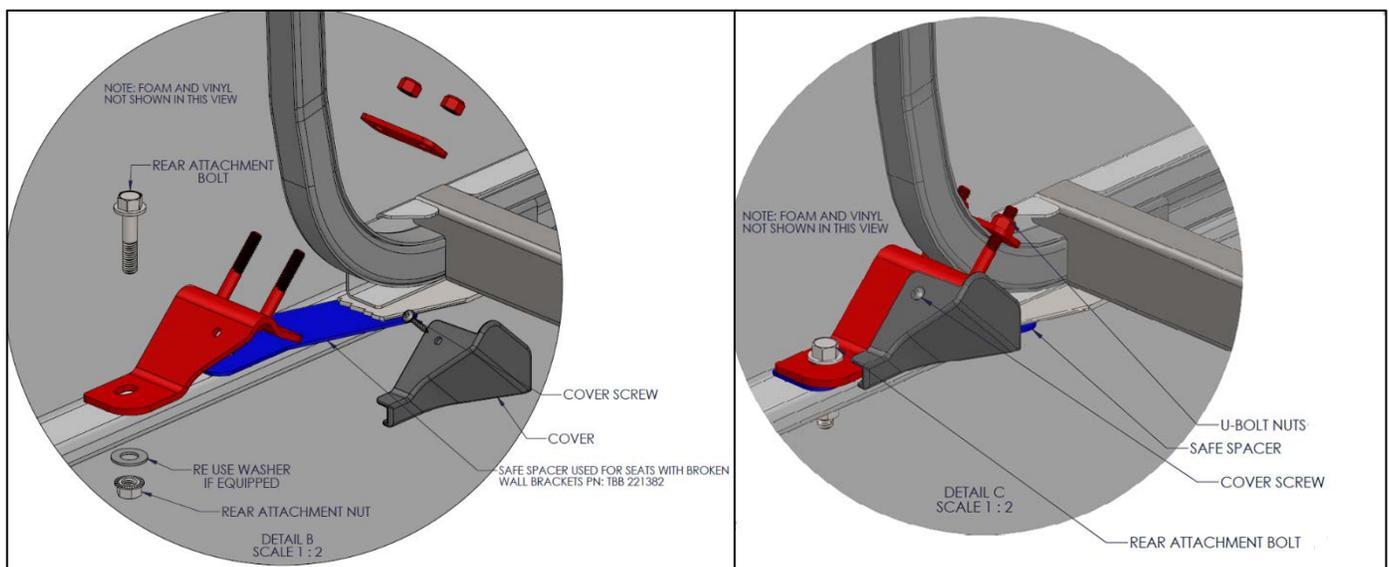

Figure 4: Installation with Safe Spacer (Driver's Side Shown) – 26 Inch, 36 Inch, and 39 Inch Seats
2. Slide the safe spacer (from kit TBB 221382) underneath the broken bracket as shown in Figure 4.
2. Slide the safe spacer (from kit TBB 221382) underneath the broken bracket as shown in **Figure 4**.